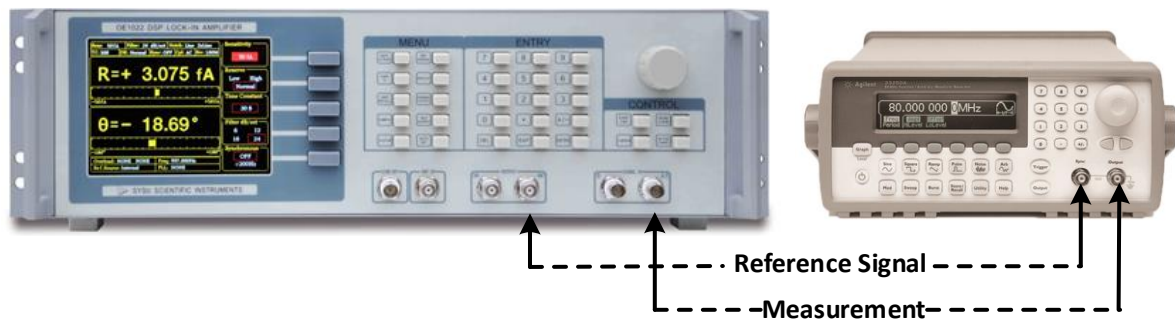

Fig.86 Signal Cable Connection Diagram.
2. Use a BNC cable to connect the output of the function signal generator and the A input of the OE2041. Use another BNC cable to connect the reference signal of the function signal generator and the REF IN of the OE2041, as is shown in Fig.86.